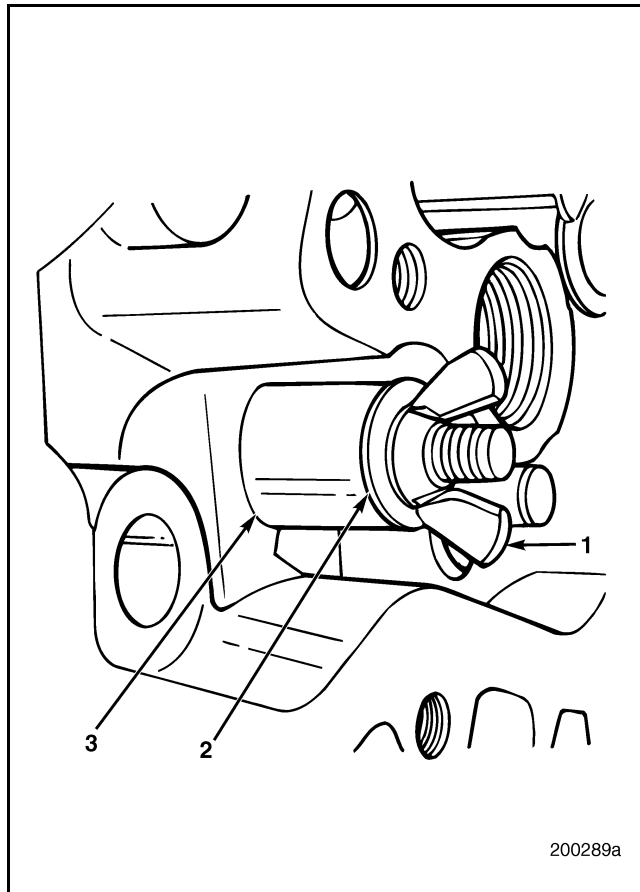

Figure 182 — Fastening Cutter Base
2. Position the cylinder head so the threaded section of the hold-down capscrews can be reached as shown in Figure 182. Install the spacer, washer and wing nut. Lightly tighten the wing nut.